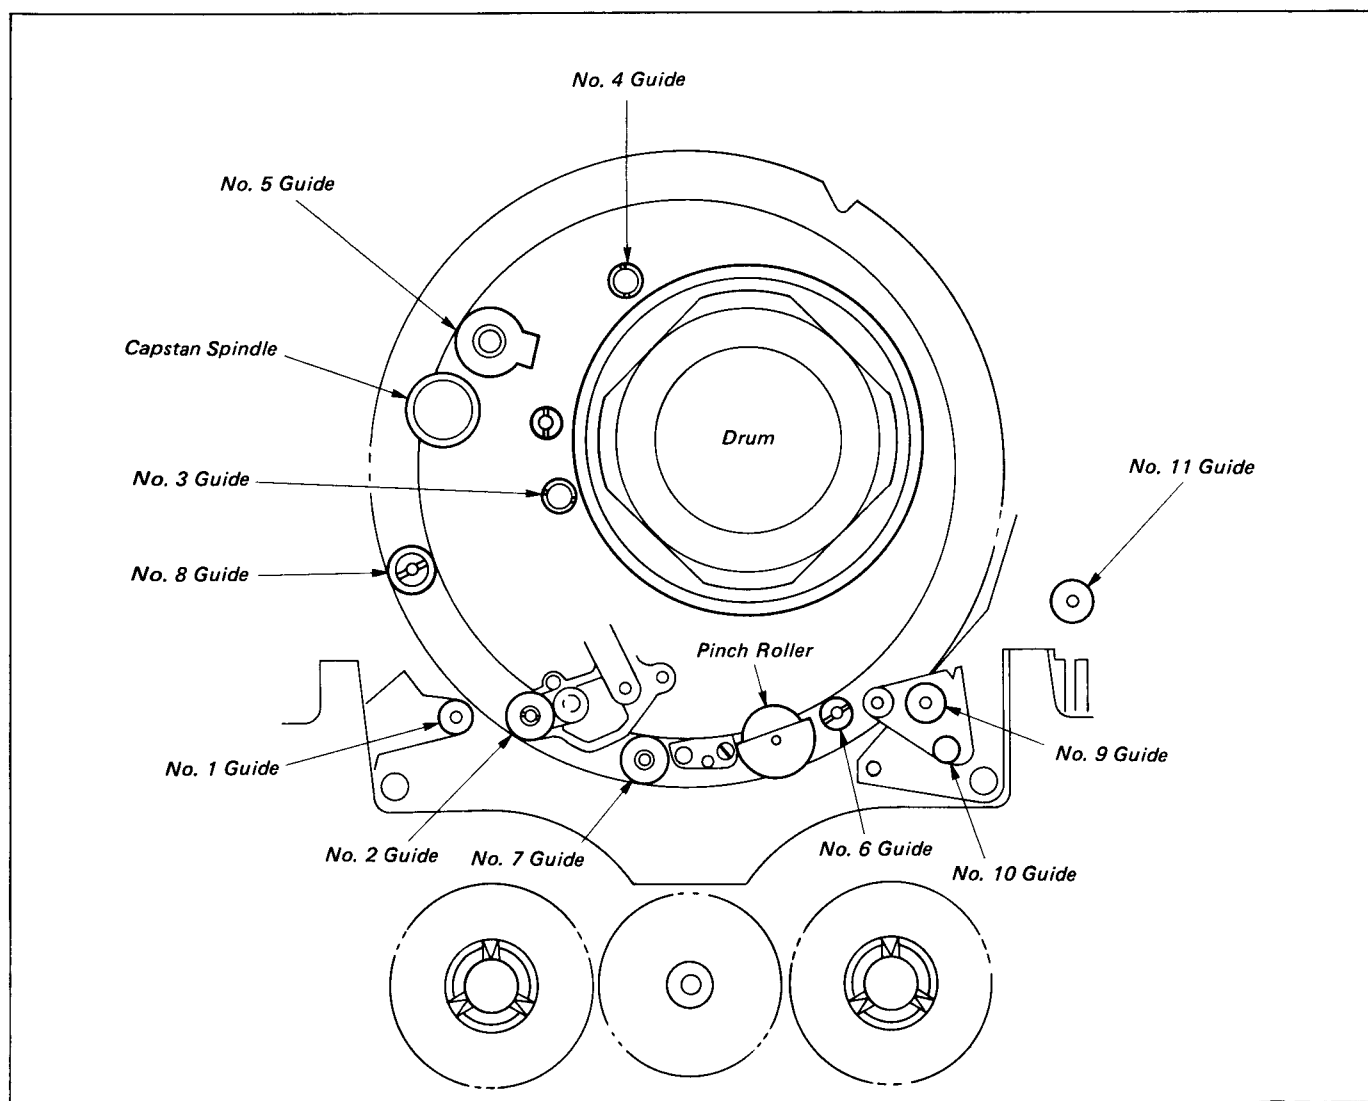

Fig. 1-6
- 1) Set up the cassette compartment assembly in an eject state and clean the tape guide system (No. 1 to 11 guides, capstan spindle and pinch roller) with chamois leather moistened with a cleaning solution. (See Fig. 1-6.)